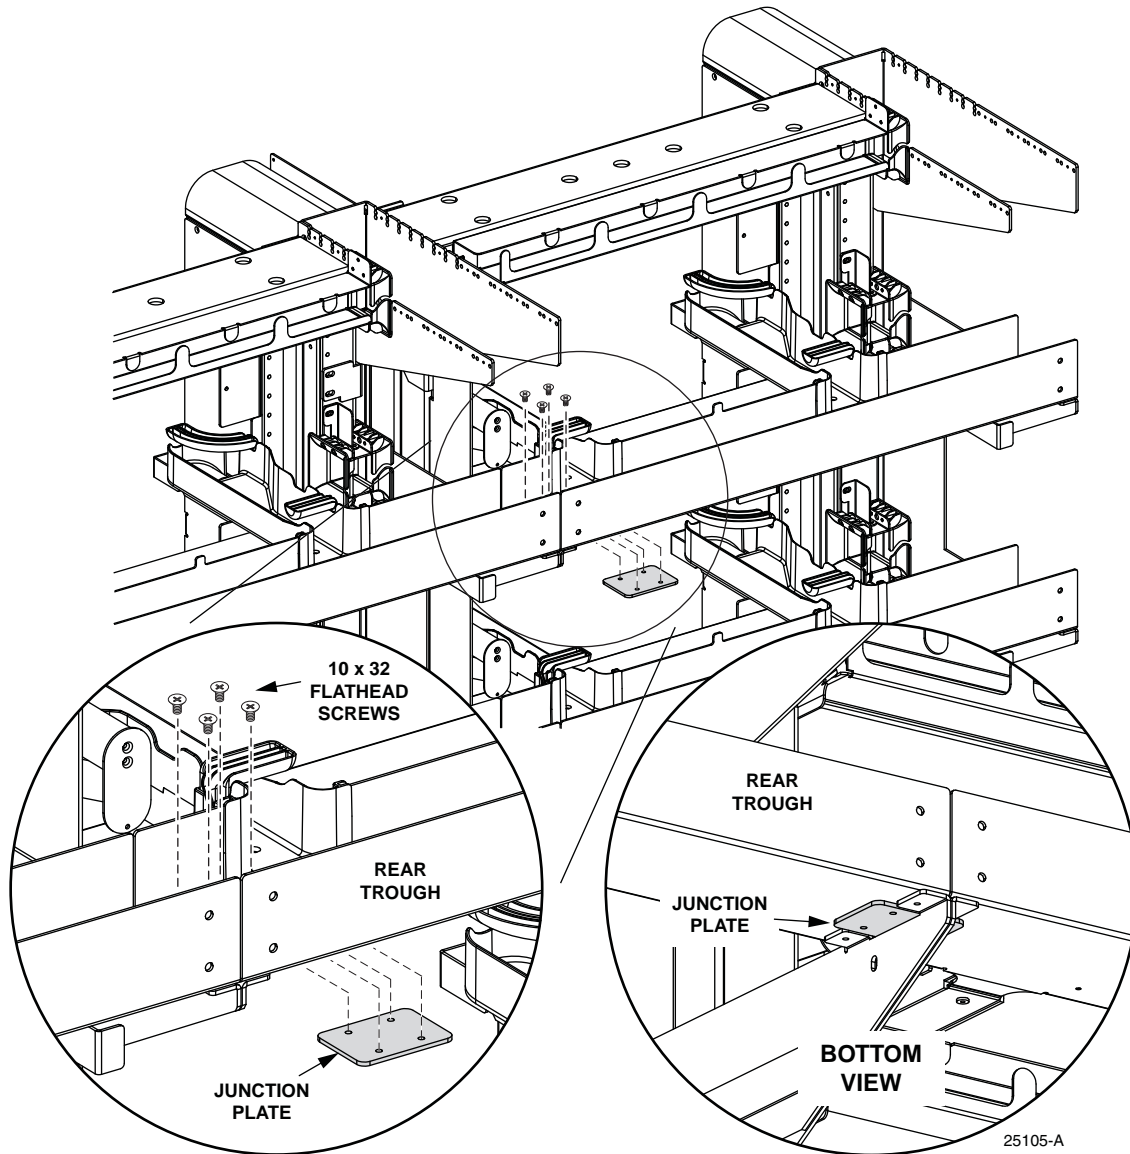

Figure 23. Installing Junction Plates (Six Places)
1. Position yourself on the rear side of the two frames and locate the place where the two top horizontal troughs interface with one another. Install a junction plate spanning the two troughs on the bottom side as shown in Figure 23. Secure the plate using four 10x32 flathead screws as shown.